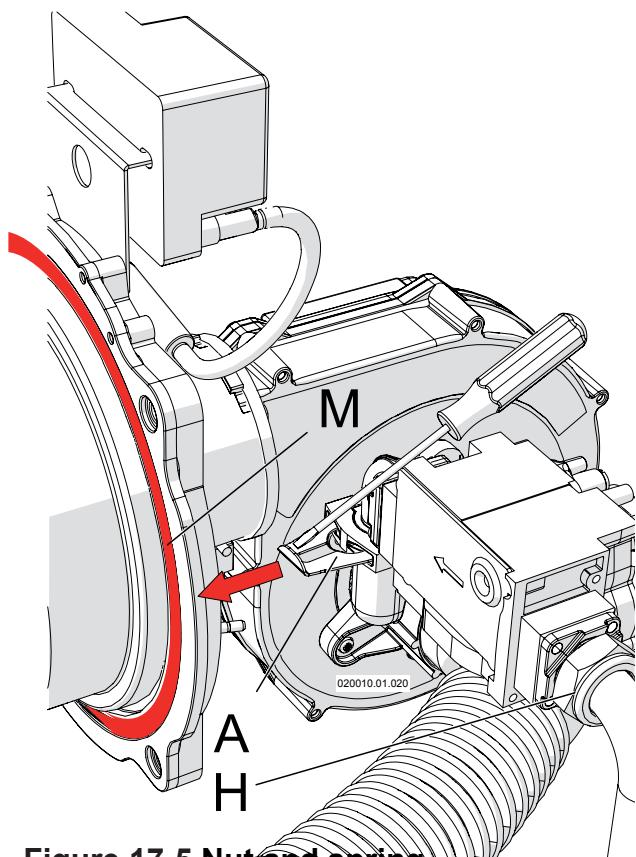
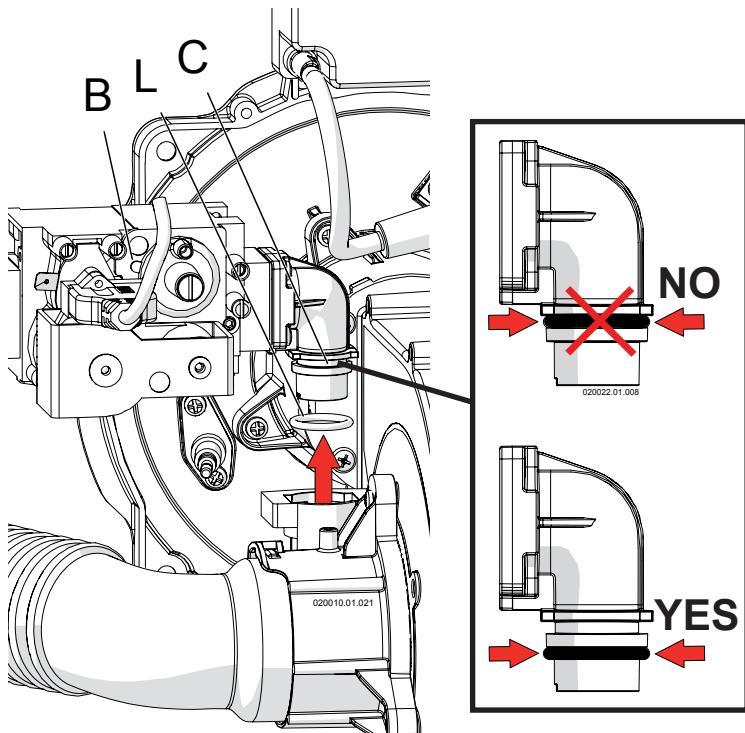

Figure 17-5 Nut and spring that fixes the gas valve
Figure 17-6 Remove the gas valve
7. unscrew nut "H" (Figure 17-5). Pay attention to the gasket between nut "H" (Figure 17-5) and the gas valve.
8. take away the spring "A" as per Figure 17-5. Help yourself with a screwdriver;
10. Remove the gas valve from its position (see Figure 17-6). Take care attention to the o-ring "L" of Figure 17-6;
17. replace gasket "M" as per Figure 17-5 (Part number for this gasket is 60703047). Take care that the gasket and its site are clean.
Pay attention to the gasket "M" (Figure 17-5) during reassemble. When finished, perform a leakage test with the burner firing. Always use an approved leak detection method. Failure to comply with this warning can cause fire, extensive property damage, severe personal injury or death!
18. reassemble the components by proceeding in reverse order. Pay attention in the reinstalling of gasket between nut "H" of Figure 17-5 and of the o-ring "L" of Figure 17-6. These must be in good condition. If not they must be replaced with;